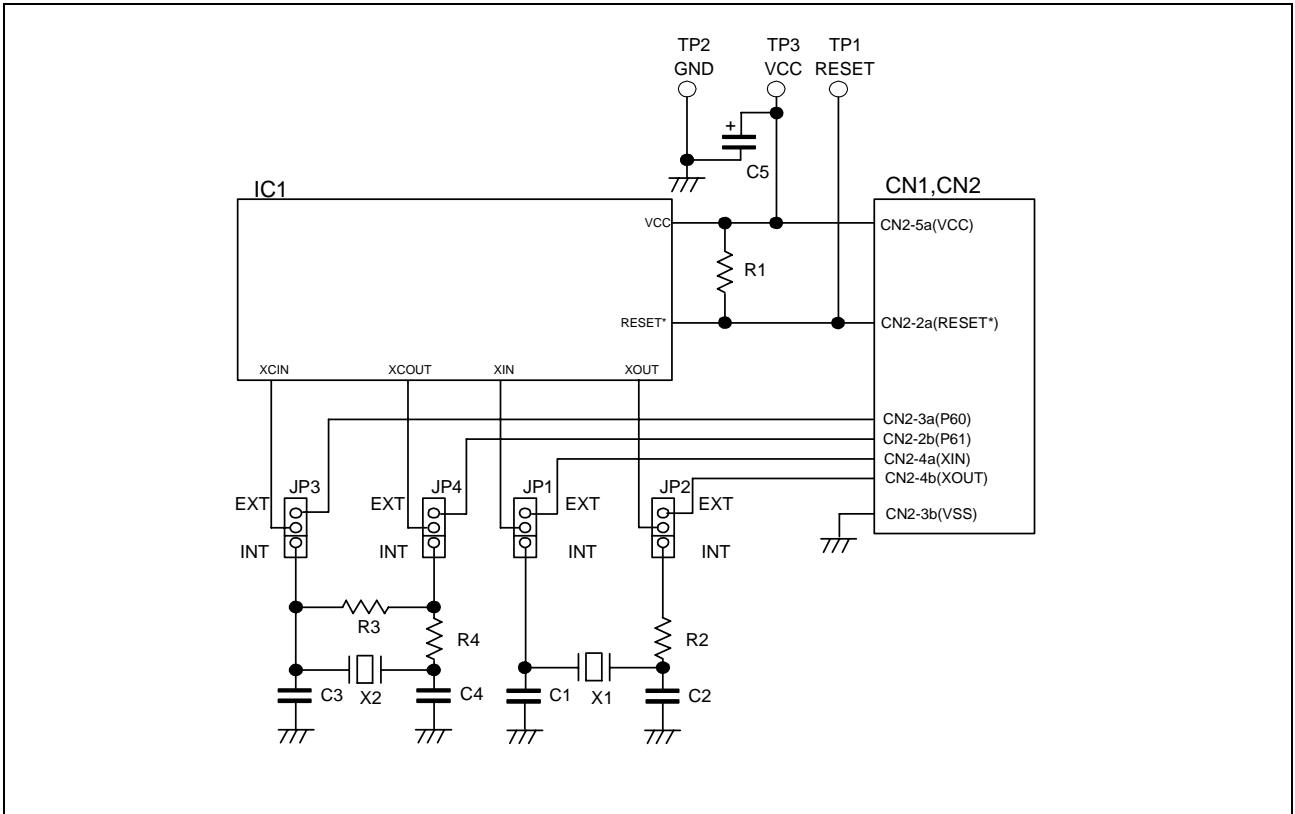

Figure 3 Oscillator circuit diagram
5. Oscillator Circuit (See Figure 3)